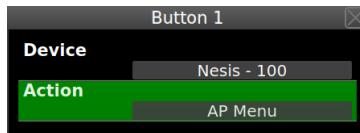

Figure 4.24: Joyu button 1 was assigned to Aetos with serial number 100 with the autopilot menu action.
2. Assign a device from the list and its action to the button pressed in the previous step. Figure 4.24 shows an example for button 1.